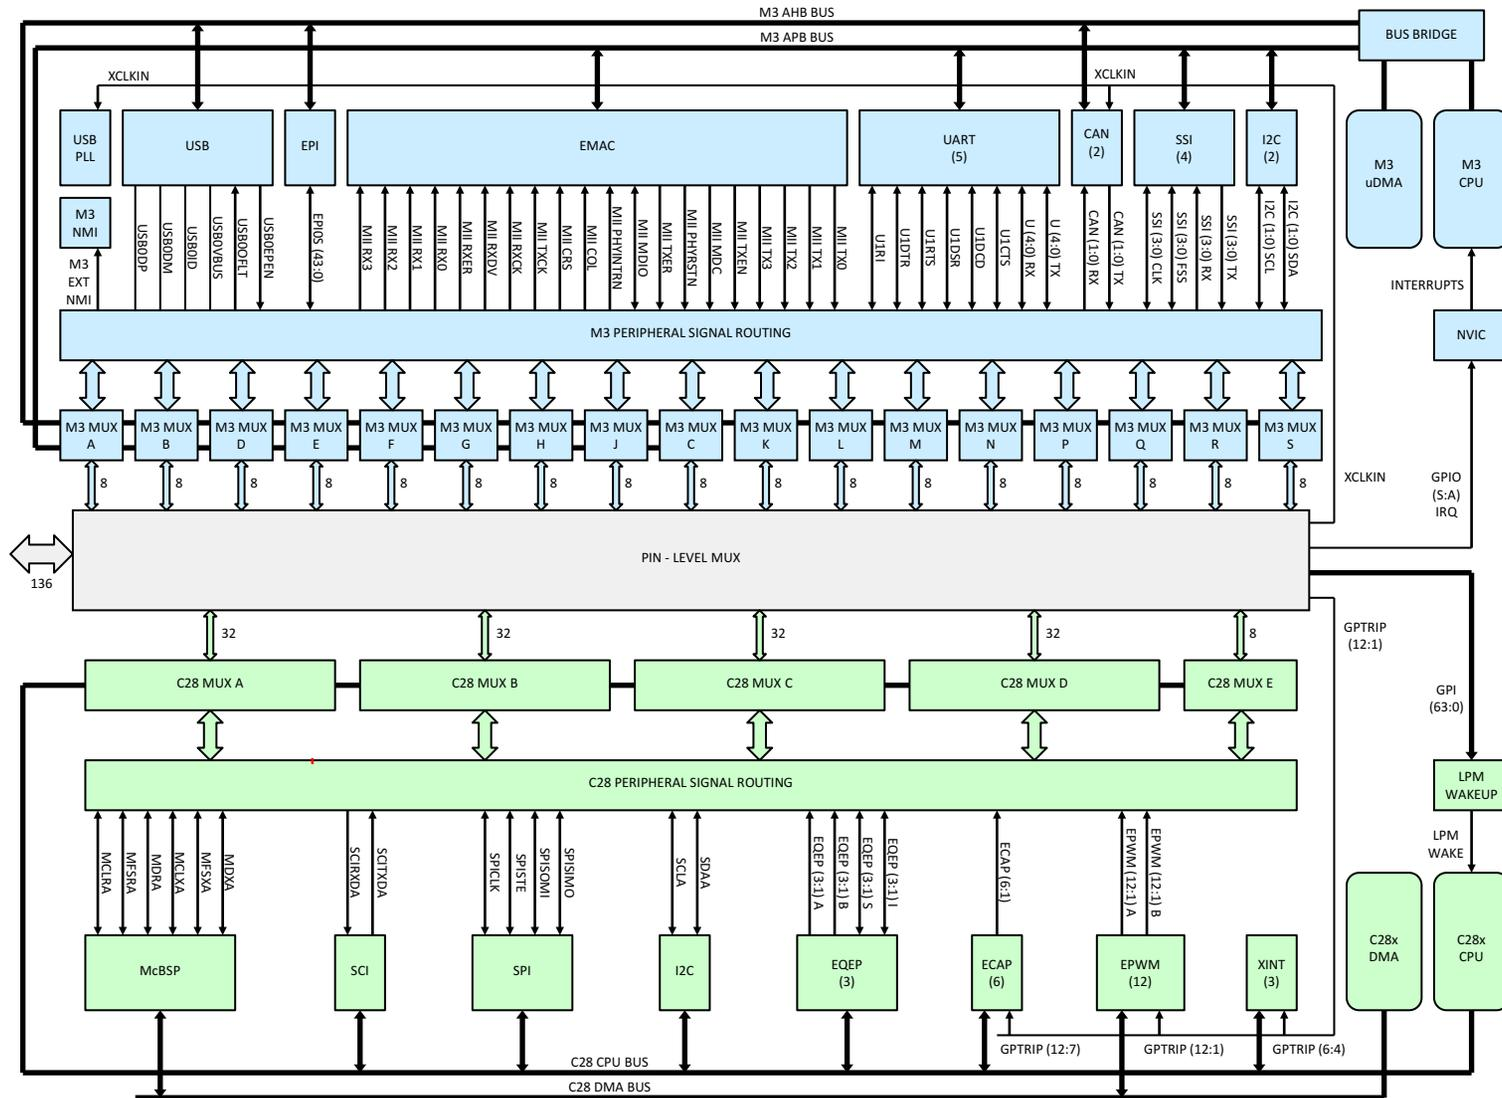
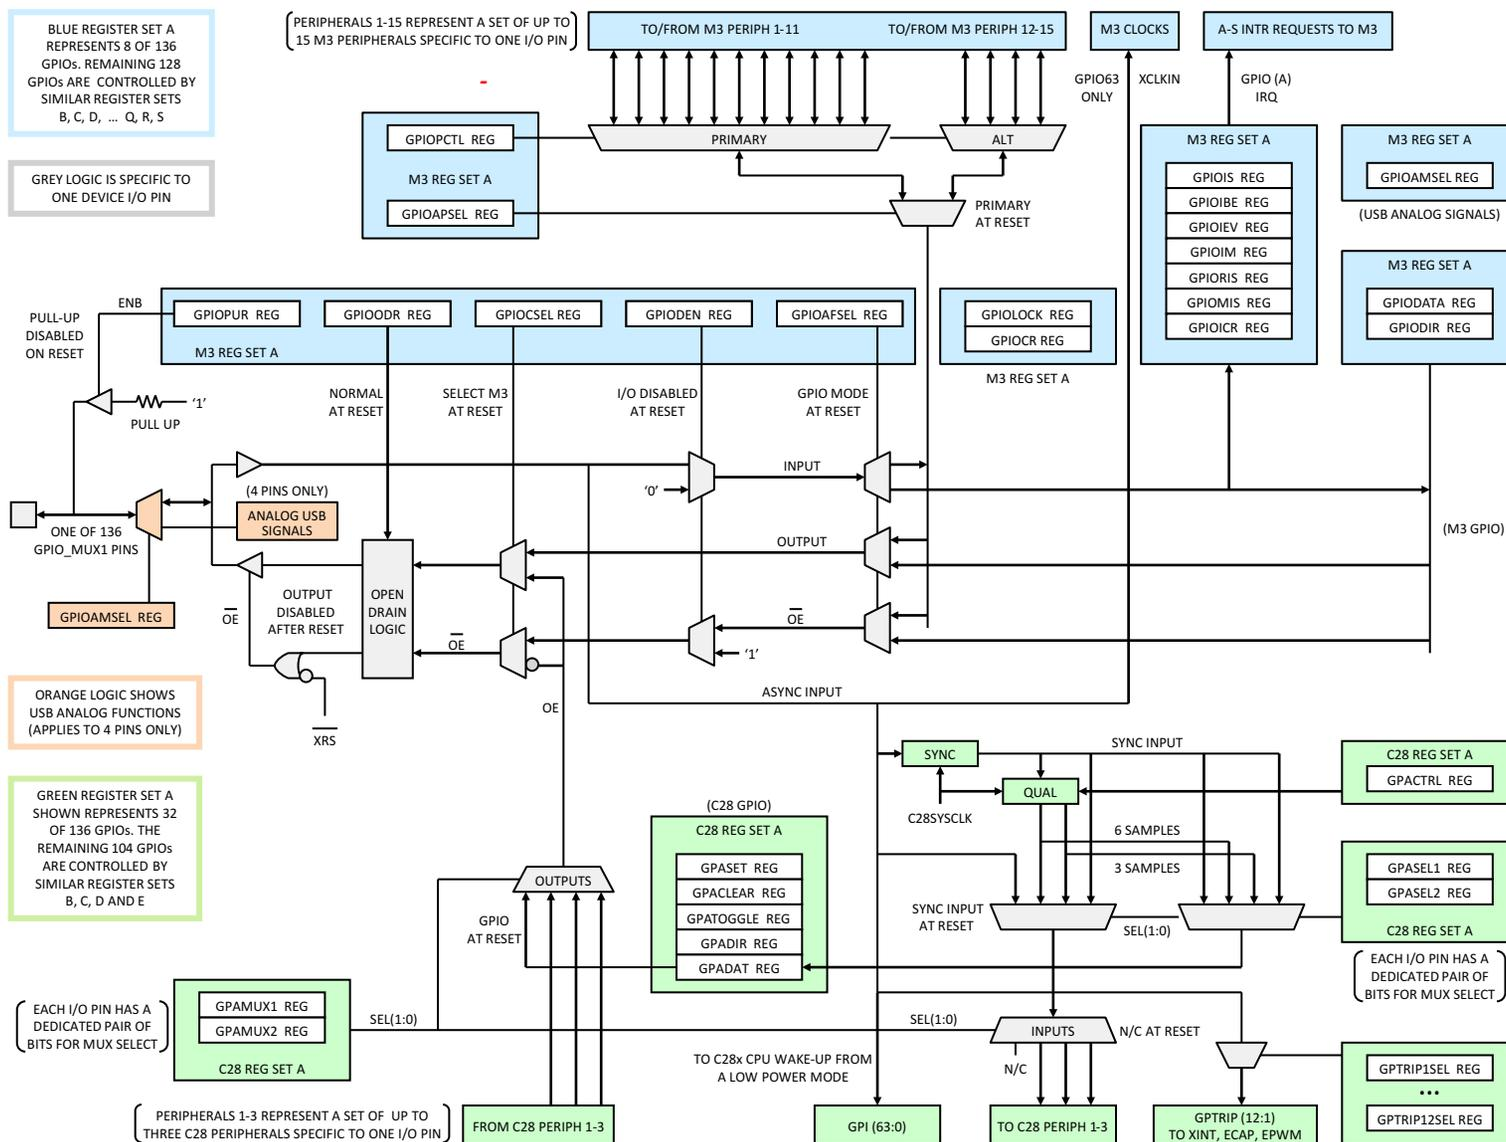

Figure 2-14. GPIO_MUX1 Block
Figure 2-15. GPIO_MUX1 Pin Mapping Through Register Set A
Figure 2-14 shows the internal structure of GPIO_MUX1. The blue blocks represent the Master Subsystem side of GPIO_MUX1, and the green blocks are the Control Subsystem side. The grey block in the center, Pin-Level Mux, is where the GPIO_MUX1 pins are individually assigned between the two subsystems, based on how the configuration registers are programmed in the blue and green blocks (see Figure 2-15 for the configuration registers).
Pin-Level Mux assigns Master Subsystem peripheral signals, Control Subsystem peripheral signals, or GPIOs to the 136 GPIO_MUX1 pins. In addition to connecting peripheral I/Os of the two subsystems to pins, the Pin-Level Mux also provides other signals to the subsystems: XCLKIN and GPIO[S:A] IRQ signals to the Master Subsystem, plus GPTRIP[12:1] and GPI[63:0] signals to the Control Subsystem. XCLKIN carries a clock from an external pin to USB PLL and CAN modules. The 17 GPIO[S:A] IRQ signals are interrupt requests from selected external pins to the NVIC interrupt controller. The 12 GPTRIP[12:1] signals carry trip events from selected external pins to C28x control peripherals—ePWM, eCAP, and eQEP. Sixty-four GPI signals go to the C28x LPM GPIO Select block where one of them can be selected to wake up the C28x CPU from Low-Power Mode. One-hundred and thirty-six (136) GPI signals go to the C28x QUAL block where they can be configured with a qualification sampling period (see Figure 2-15).
The configuration registers for the muxing of Master Subsystem peripherals are organized in 17 sets (A–S), with each set being responsible for eight pins. The first nine sets of these registers (A–J) are programmable by the Cortex™-M3 CPU via the AHB bus or the APB bus. The remaining sets of registers (K–S) are programmable by the AHB bus only. The configuration register for the muxing of Control Subsystem peripherals are organized in five sets (A–E), with each set being responsible for up to 32 pins. These registers are programmable by the C28x CPU via the C28x CPU bus. Figure 2-15 shows set A of the Master Subsystem GPIO configuration registers, set A of the Control Subsystem registers, and the muxing logic for one GPIO pin as driven by these registers.